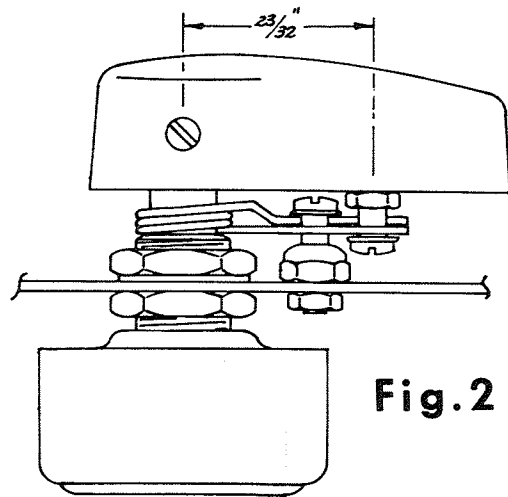

Fig. 2
rectangular opening for the slide switch, a series of $\frac{3}{32}$ " diameter holes are drilled within the outline to remove the bulk of the metal, and the opening finished with a small file. After deburring the case holes, refer to (Fig. 2) for a detail of the centering spring arrangement. The two spring detents may now be installed in the $\frac{3}{32}$ " holes in the case back. Run the 2-56 screws thru the aircraft nuts from the normal direction once to impress threads in the nylon locking insert and then assemble with brass eyelets as shown in Fig. 2.
- () 23. Install the spring detents on the levers as shown in Fig. 2. The 2-56 screws will self tap into the Nylon.